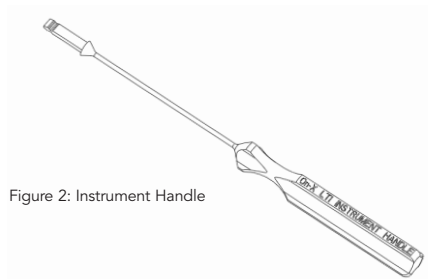

Figure 2: Instrument Handle
**Instrument Handle** – The instrument handle (Figure 2) facilitates holding the valve or the rotator during surgery. The instrument handle is comprised of a grip, a bendable stem and a tip.